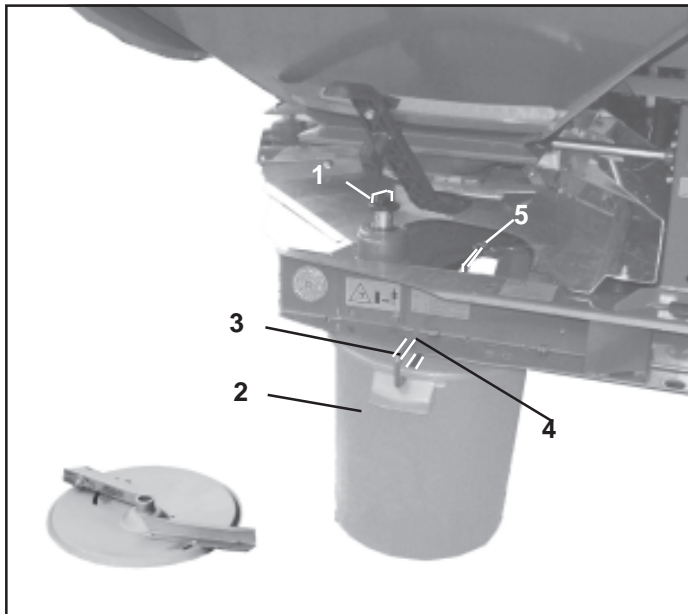

Fig. 11.5
- Unscrew the thumb nut (Fig. 11.5/1) for fixing the left hand spreading disc and pull the spreading disc off the gear box shaft.
- Hang the calibration bucket (Fig. 11.5/2) with its handle (Fig. 11.5/3) into the rear retainer (Fig. 11.5/5) and the front retainer (Fig. 11.5/4) on the frame.